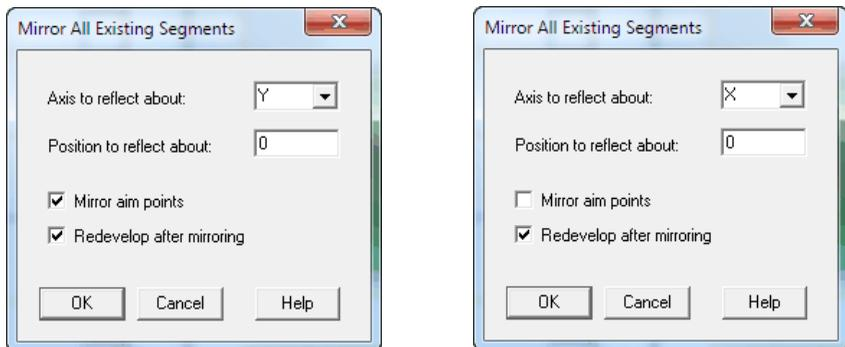

Figure 1.27 Mirroring about the Y axis (left) and X axis (right)
- 1 Click **Segment, Mirror Existing Segments** and complete the dialog box as shown in Figure 1.27 (left side). This step creates three additional segments with mirrored vertices and aiming (because **Mirror aim points** is selected).
Because we want output only on the lower half, **Mirror aim points** should not be selected this time, as shown in Figure 1.27 (right side). With the top half finished,